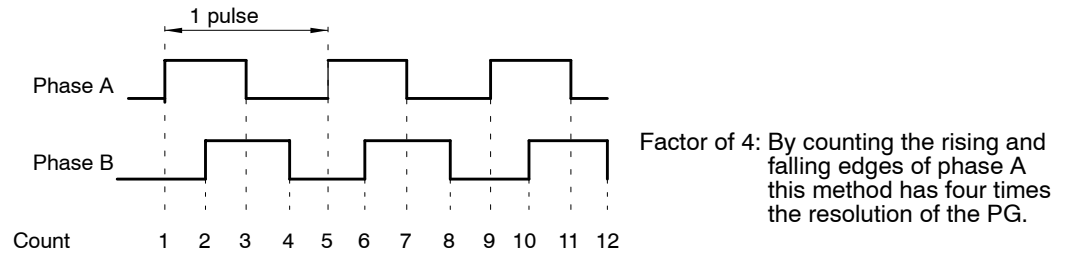

Fig 7.8 Pulse Count Factored by 4
- Set the Zero-servo Completion Width to four times the number of pulses from the PG (pulse generator or encoder), as shown in *Figure 7.8*.